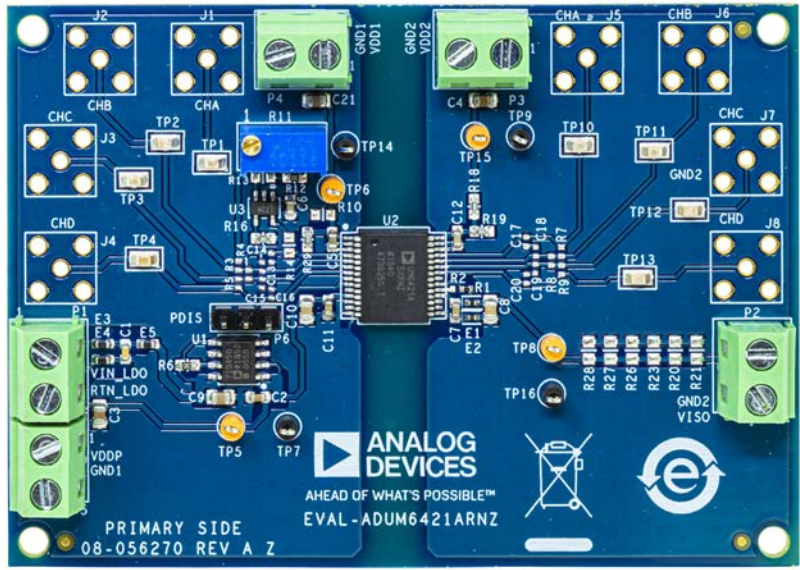
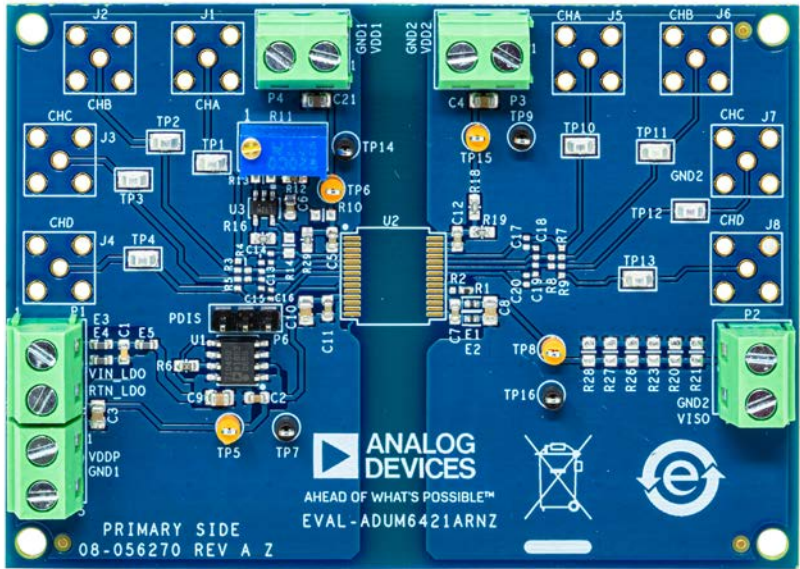
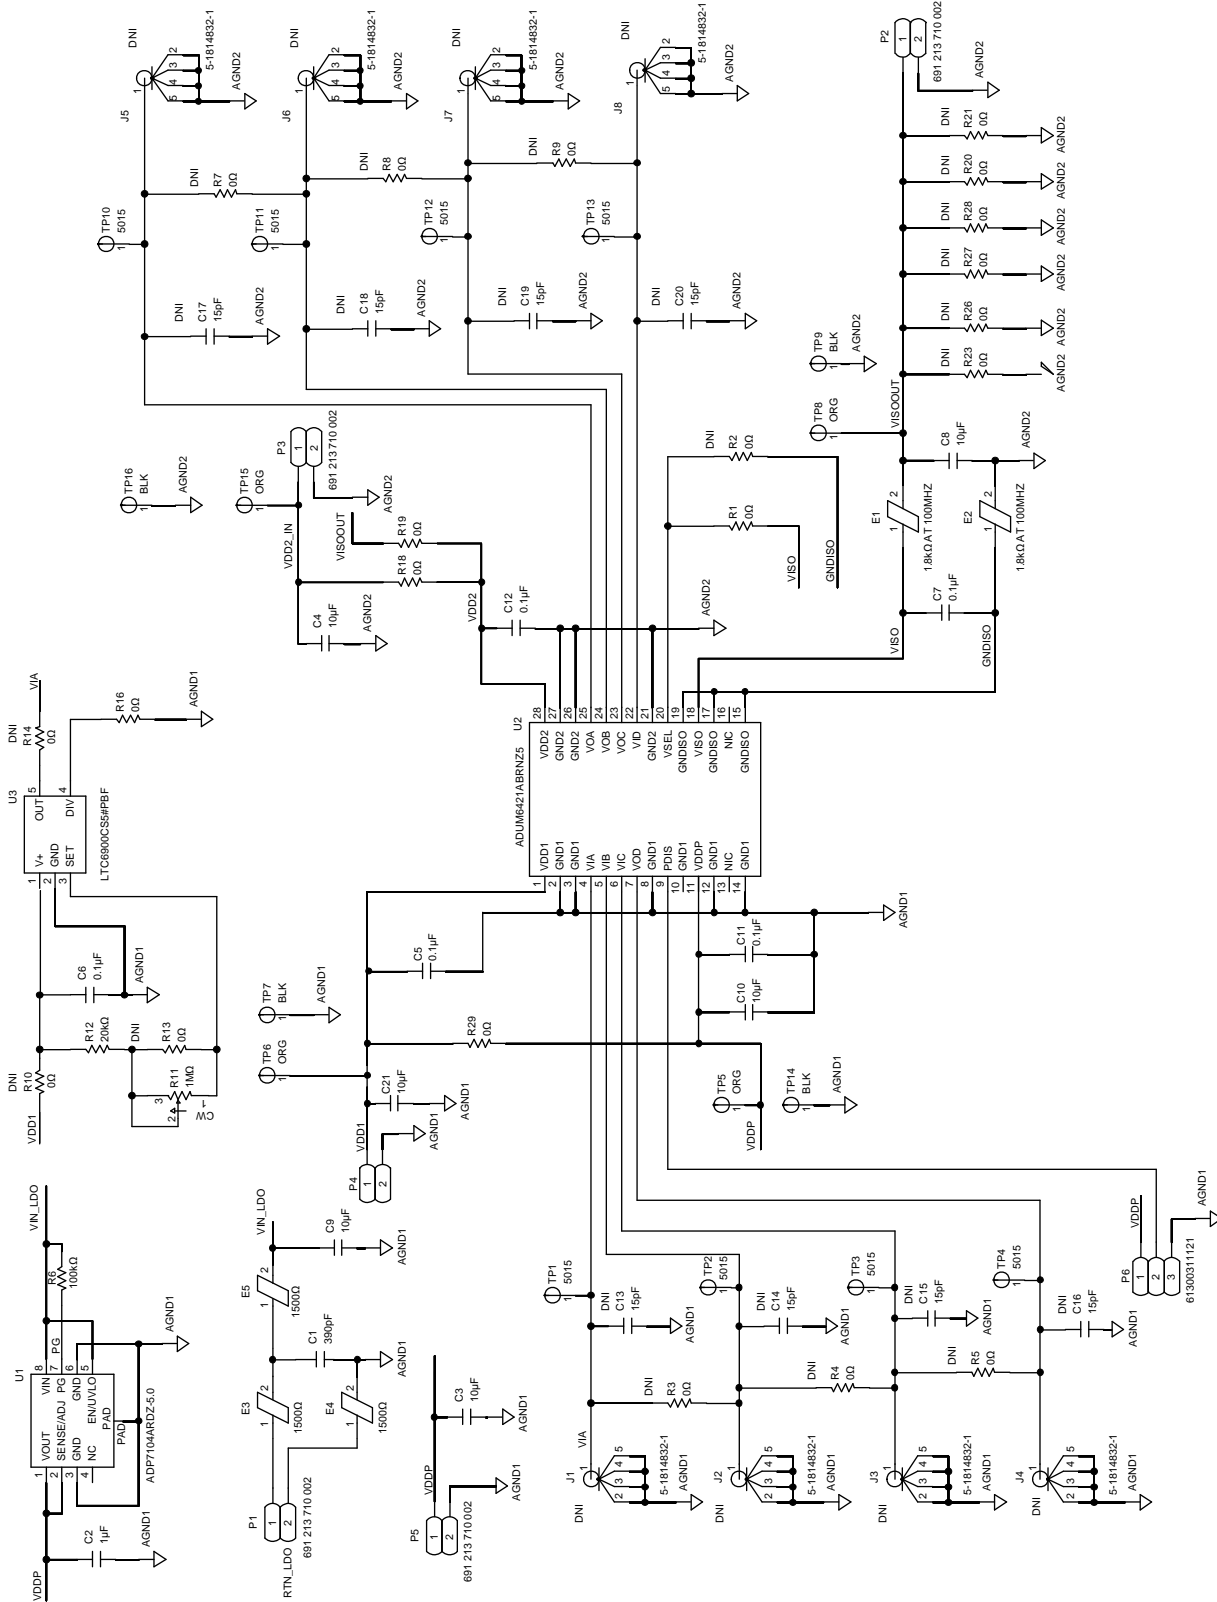

Figure 1. EVAL-ADUM6421ARNZ
Figure 2. EVAL-ADUM6421AURNZ
Figure 6. EVAL-ADUM6421ARNZ/EVAL-ADUM6421AURNZ Schematic
Figure 1 and Figure 2 show the EVAL-ADUM6421ARNZ and EVAL-ADUM6421AURNZ, respectively. The ADuM6420A/ADuM6421A/ADuM6422A can be powered directly or by the on-board low dropout (LDO) regulator. Either power scheme can be used without modification to the evaluation boards. The LDO input supply and return, Pin 1 and Pin 2, respectively, of Screw Terminal P1 (marked VIN\_LDO and RTN\_LDO in Figure 6), requires a power supply voltage of 6 V to 9 V. The LDO supply input is filtered by a ferrite bead network. The LDO generates the required 5 V to the ADuM6420A/ADuM6421A/ADuM6422A VDDP pin. A 9 V battery can power the evaluation boards (when testing for electromagnetic compatibility (EMC), for example). Alternatively, the ADuM6420A/ADuM6421A/ADuM6422A can be powered directly with a 5 V supply through Pin 1 of Screw Terminal P5 (marked VDDP in Figure 6).
In both power schemes, the power supply return connects to Pin 2 of Screw Terminal P1 or P5 (marked AGND1 in Figure 6).
- Connect the VISO load (shown in Figure 6) using a PCB trace. Do not connect the VISO load to a power plane.